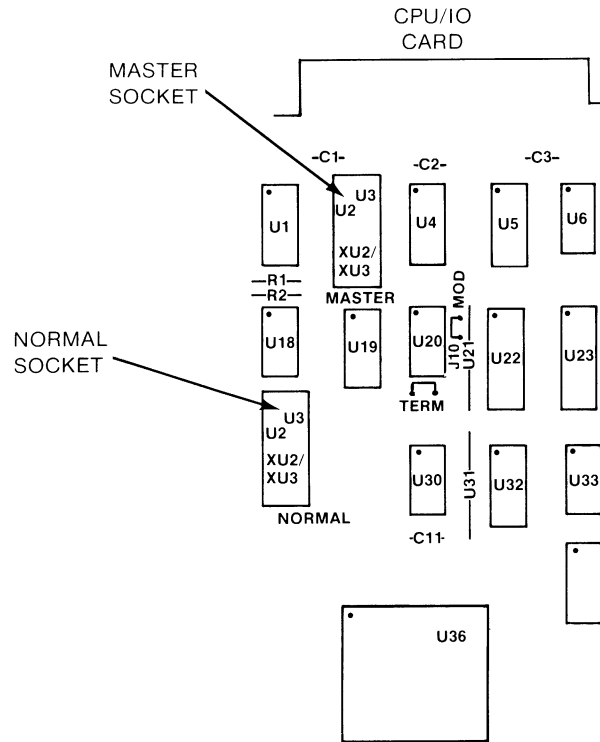

Figure 3-2. CPU/IO Card MASTER/SLAVE IC Sockets
On the CPU/IO card in the 64110A are two IC sockets labelled MASTER and NORMAL (see figure 3-2). Associated with these sockets is a set (2) of moveable resistor networks that are used to designate the station as either a Master Controller or as a slave station. When the two resistor networks are plugged into the IC socket labelled MASTER, the station is configured as a Master Controller. When the two resistor networks are plugged into the IC socket labelled NORMAL, the station is configured as a slave station.